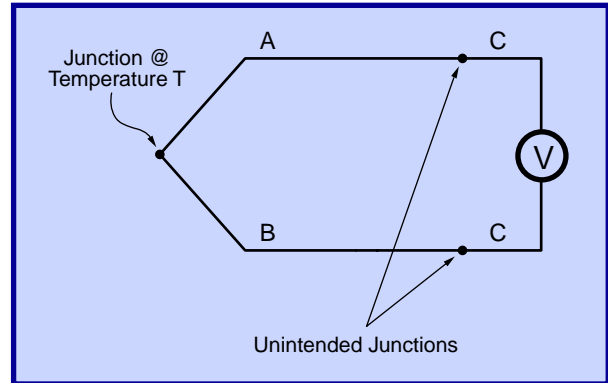

Fig. 2 Additional Junctions
A problem arises when measuring the voltage across a dissimilar metal junction—two additional thermocouple junctions form where the wires connect to the voltmeter (Fig. 2). If the wire leads which connect to the voltmeter are made of alloy "C", then there exist thermal emf's at the A-C and
The second approach to the problem relies on the fact that the voltage across the junction A-C plus the voltage across the junction C-B is the same as the voltage across a junction of A-B. As long as all the junctions are at the same temperature, the presence of an intermediate metal (C) has no effect. This allows us to correct for the voltage seen by the voltmeter in Figure 2 by measuring the temperature at the A-C and B-C junctions and subtracting the voltage which we would expect for an A-B junction (at the measured temperature). In the SR630, the temperature of the A-C and C-B junctions is measured with a low-cost, high-resolution semiconductor detector, and the subtracted voltage is the tabulated voltage of the A-B thermocouple at the measured temperature of the A-C and C-B junctions. The advantage of this method is that any type thermocouple may be used without having to change compensation junctions or maintain ice baths.